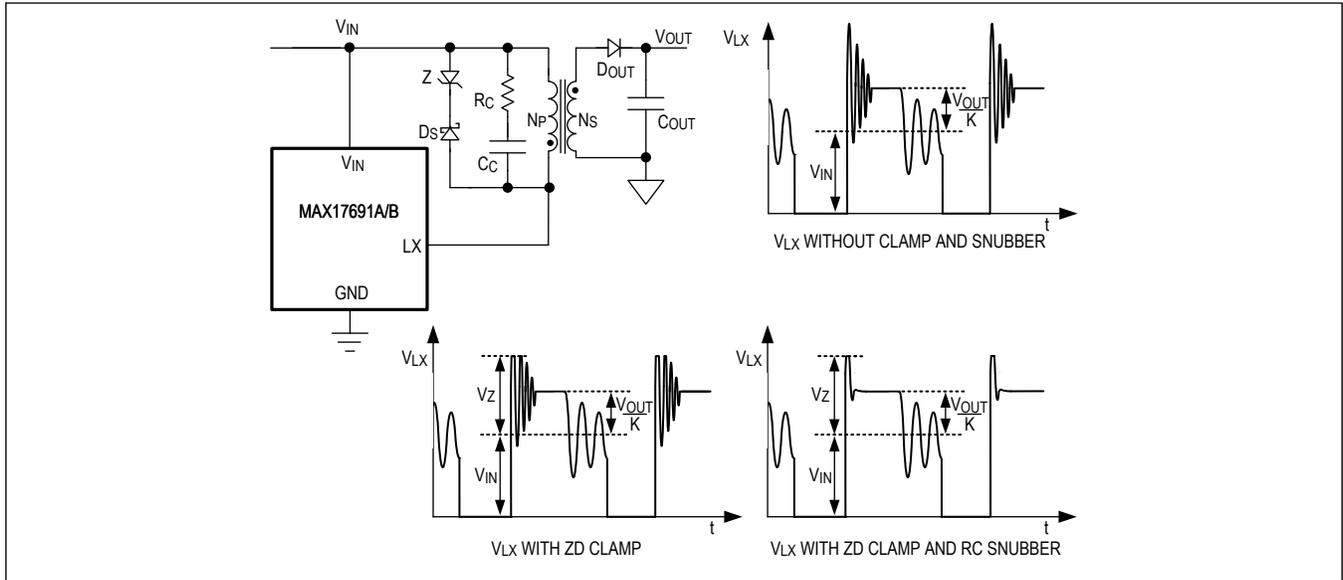

Figure 9. Voltage Clamp Circuit
A simple Zener-diode (ZD) clamp can be used as a voltage-clamp circuit. Figure 9 shows the operating waveform of the ZD clamp. Ideally, the ZD breakdown voltage should be selected to be the same as the  $V_{CLAMP}$ . However in practice, the ZD breakdown voltage should be 5V to 10V below the  $V_{CLAMP}$  to accommodate any additional voltage spike due to parasitic inductance in the clamp-circuit path, such that the LX voltage does not exceed 76V. A 0.25W power rating ZD satisfies most applications.